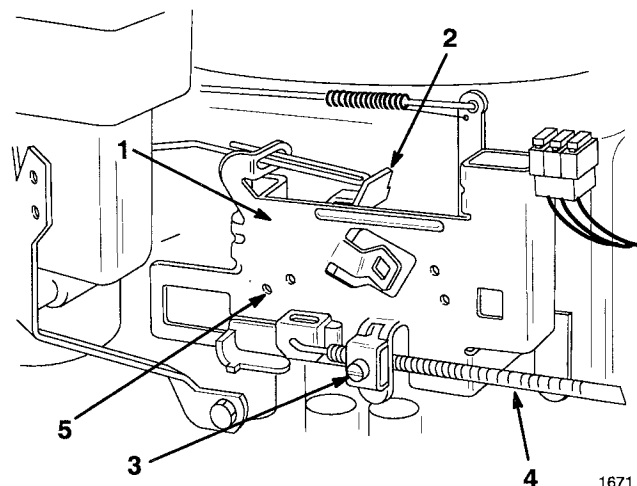

Figure 25
- B. With the throttle in the "FAST" position, index holes in the governor control lever and the governor plate must align (Fig. 25). If they do not align, refer to step 4 for adjustment procedure.
- B. Loosen the throttle cable clamp screw until you can slide the throttle cable casing (Fig. 25).
- C. Move the throttle cable casing until the index holes in the governor control lever and the governor plate align (Fig. 25). Now tighten the cable clamp screw.